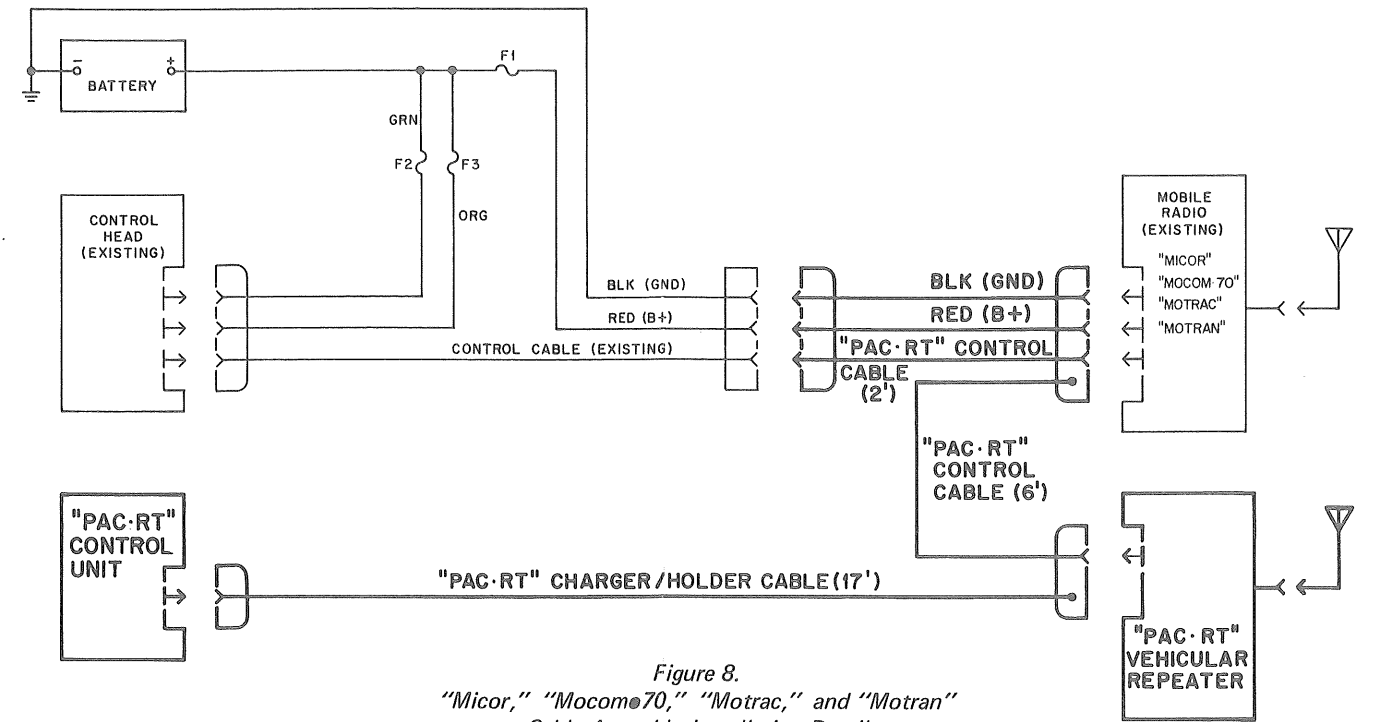
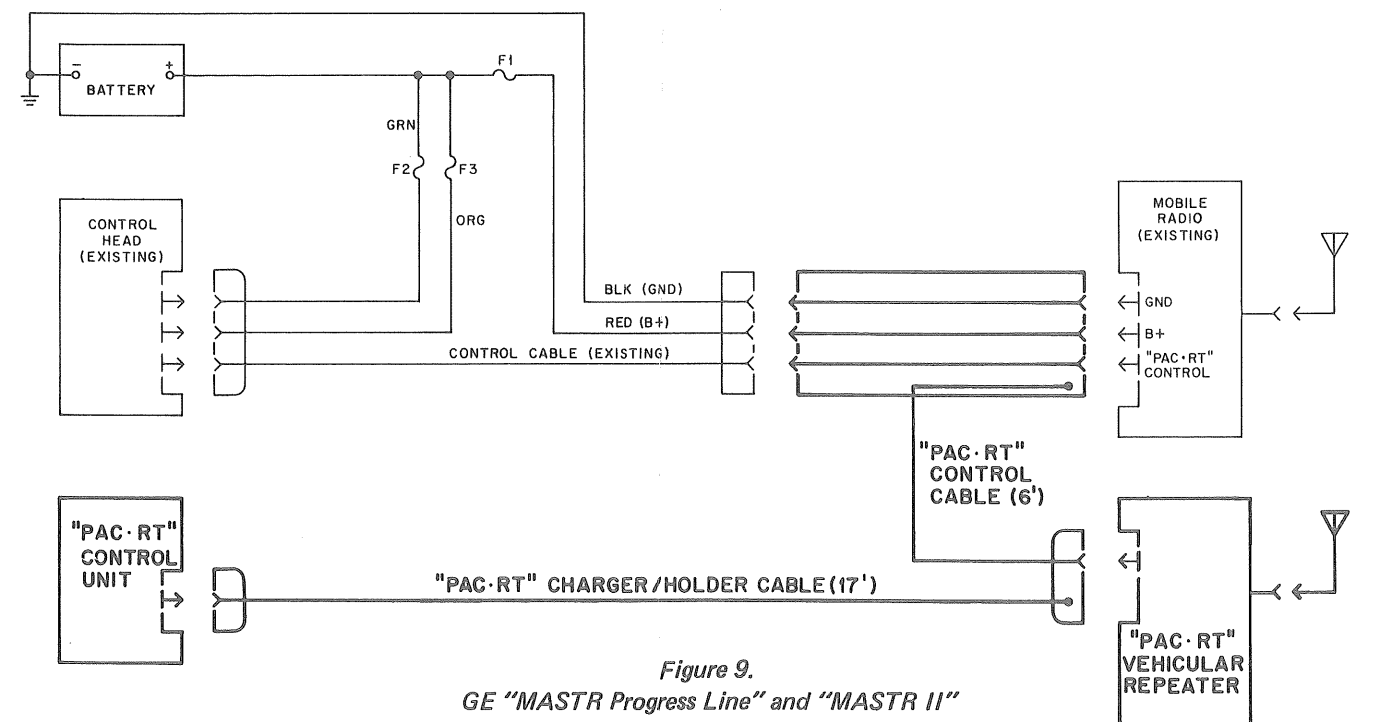

Figure 8.
Figure 9.
Refer to Figure 8 or 9 for the interfacing of the cable assembly between the existing mobile radio and control head and the PAC-RT vehicular repeater and charger. Note the different cable lengths of the cable assembly being added; they will be used as a means of identification. Perform the following procedure:
a. Disconnect the plug from the existing mobile radio and connect it to the male plug as shown in Figure 8 or Figure 9 for the specific mobile radio used. In Figure 8, the plug is on a two-foot piece of cable; in Figure 9, it is a feed-through connector.